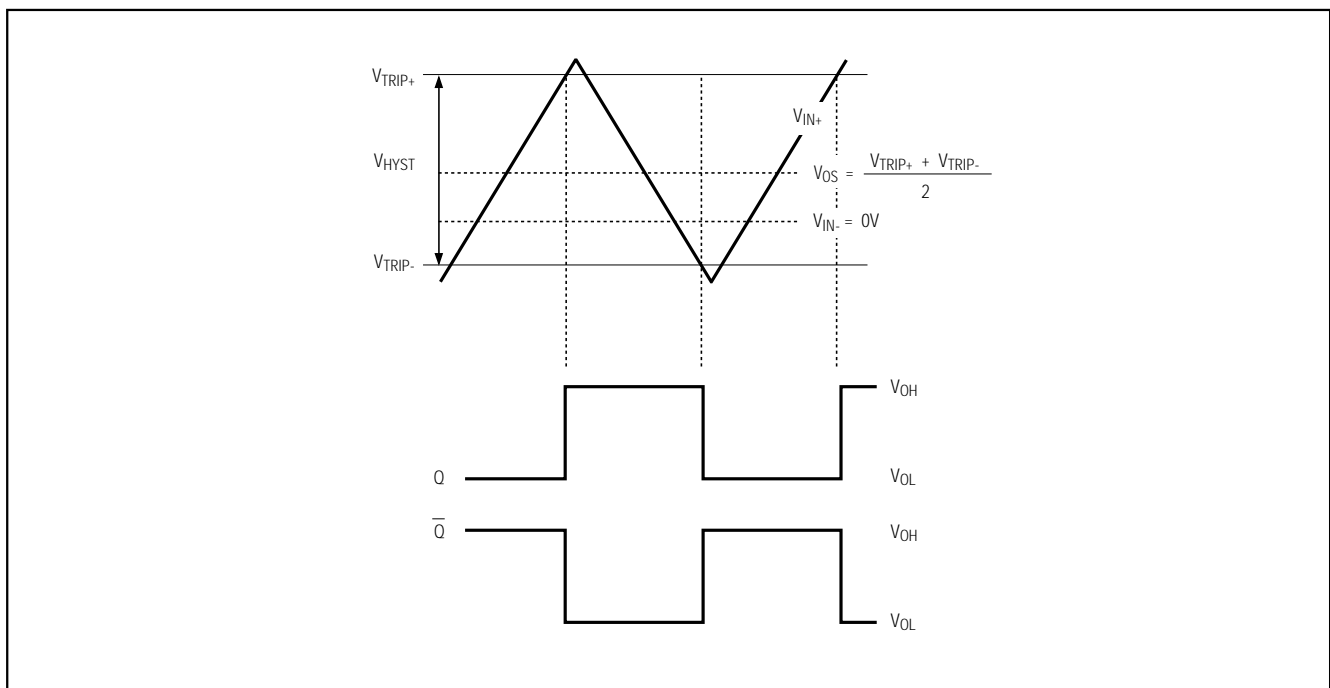

Figure 1. Input and Output Waveforms, Noninverting Input Varied
**Note 3:** The input-referred trip points are the extremities of the differential input voltage required to make the comparator output change state. The difference between the upper and lower trip points is equal to the width of the input-referred hysteresis zone. (See Figure 1.)
The added hysteresis of the MAX961-MAX964/MAX997/MAX999 creates two trip points: one for the rising input voltage and one for the falling input voltage (Figure 1). The difference between the trip points is the hysteresis. When the comparator's input voltages are equal, the hysteresis effectively causes one comparator input